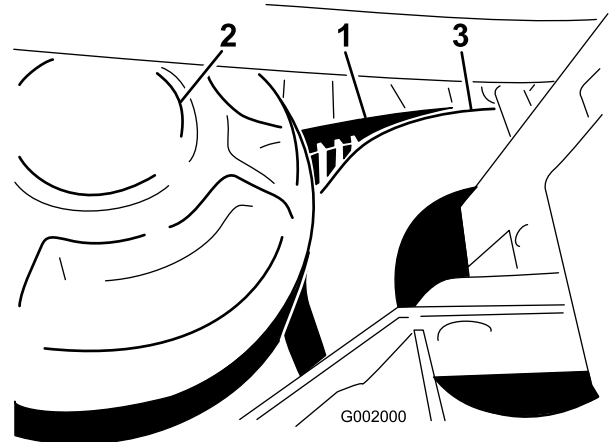

Figure 62
1. Rotate and route the belt over the secondary clutch (Figure 62).